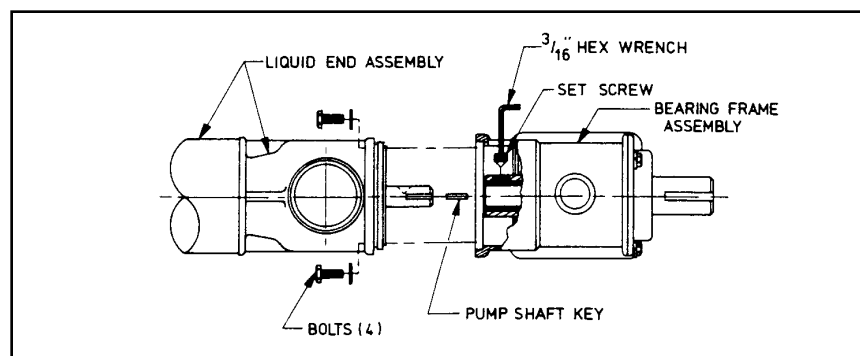
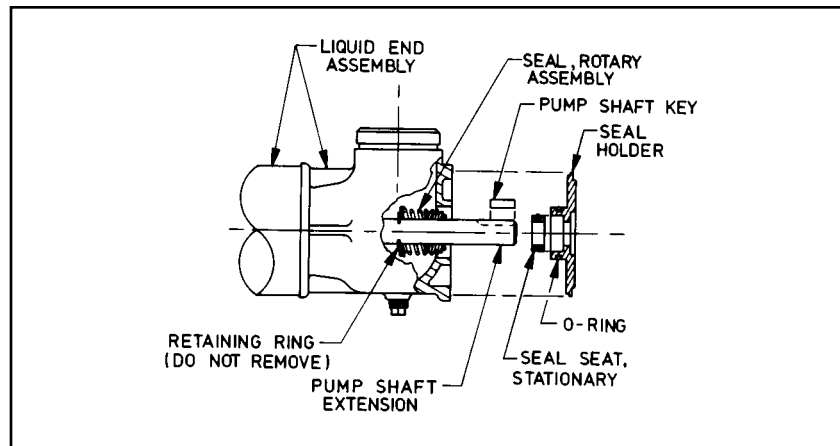

Figure 6.6
Figure 6.7
1. Remove the four (4) 3/8-inch bolts and lock washers connecting the liquid end assembly to the liquid end adapter (Figure 6.6, Separation of Liquid End Assembly From Bearing Frame).
2. Insert a 3/16-inch Allen (hex) wrench in one of the access holes on either side of the bearing frame toward the liquid end (Figure 6.6). Rotate the pump shaft until the Allen wrench slips into the set screw. Remove the set screw.
4. Fasten together the inlet casting, mechanical seal holder, and bearing frame assembly with the four (4) 3/8-inch bolts and lock washers. Reference Figure 6.6 (Separation of Liquid End Assembly from Bearing Frame) and Figure 6.7 (Removal of Mechanical Seal) for correct placement of parts.
2. Remove the pump shaft key and slide the mechanical seal holder off the pump shaft (Figure 6.7, Removal of Mechanical Seal).
3. Remove the rotary portion (spring, washer, and face assembly) of the seal assembly from the pump shaft by rotating and pulling the rotary portion until it slides off the pump shaft. If prying is required, do not damage the pump shaft or inlet housing where the seal holder seals (Figure 6.7, Removal of Mechanical Seal).
7. Remove the stationary portion of the mechanical seal from the cavity in the seal holder (Figure 6.7).